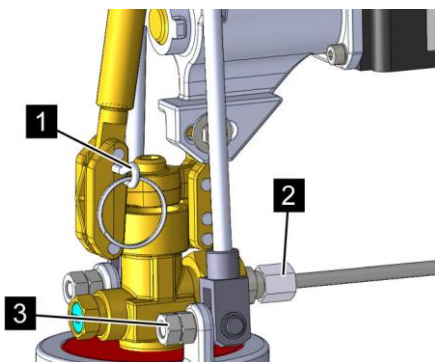

Fig. 70: Lock pin
Ensure that the lock pin (Fig. 70/1) is inserted in the valve.
8. ➤ Mount M8x20 ring bolts with nuts (Fig. 70/3) on the fastenings of the holding rods in such a manner that the ring is vertical and points in the direction of the control connection (Fig. 70/2).